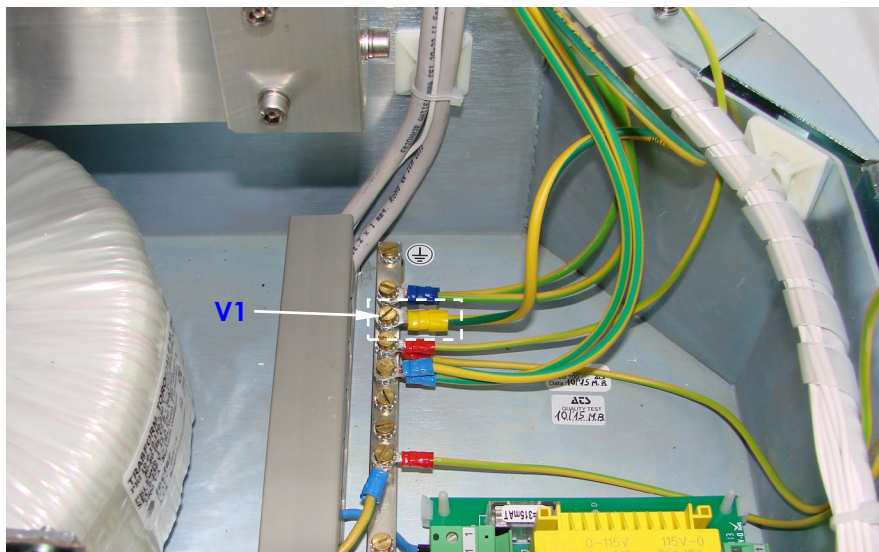

Fig.26
- Remove the screw (**V1**) fixing the yellow eyelet terminal used for the earth wire (yellow/green wire), Fig.26